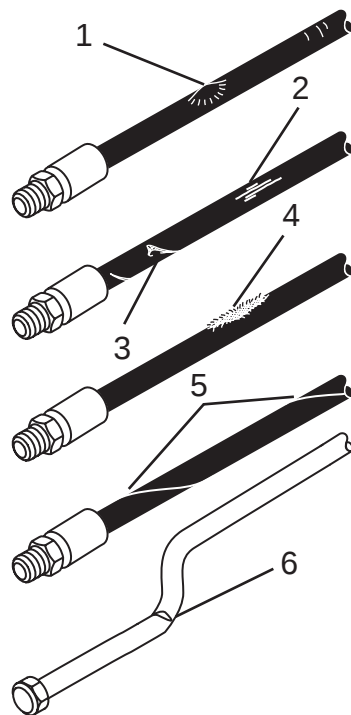

Figure 108
- Bulging (Figure 108, Item 1)
- Cracks (Figure 108, Item 2)
- Cuts (Figure 108, Item 3)
- Abrasion (Figure 108, Item 4)
- Twisting (Figure 108, Item 5)
- Crimped (Figure 108, Item 6)